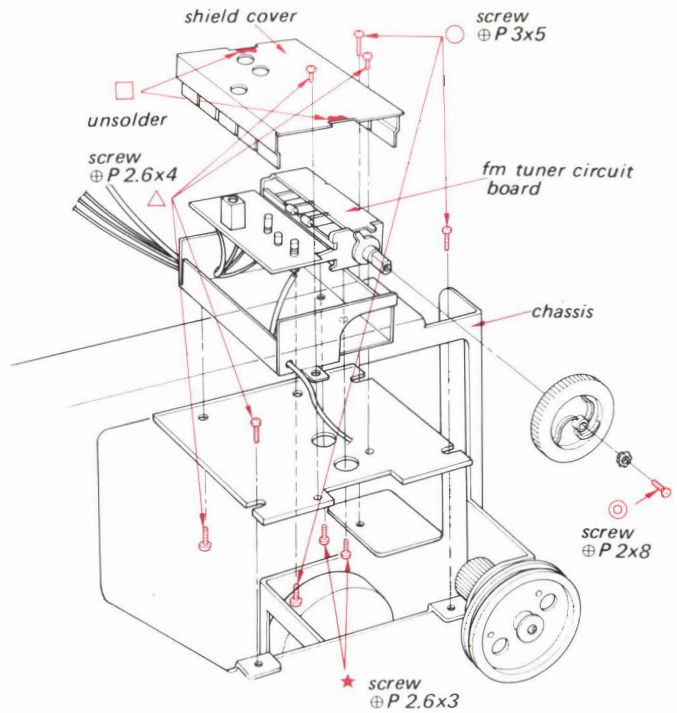

Fig. 2-7
2. Remove the seven screws marked \circ and \triangle in Fig. 2-7.
6. Take out the shield cover and fm front end circuit board as illustrated in Fig. 2-7.